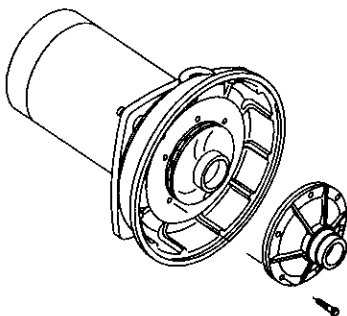

Figure 13 – Remove Diffuser
1. Remove four screws fastening diffuser to seal plate; remove diffuser (see Figure 13). Exposed impeller can now be cleaned.